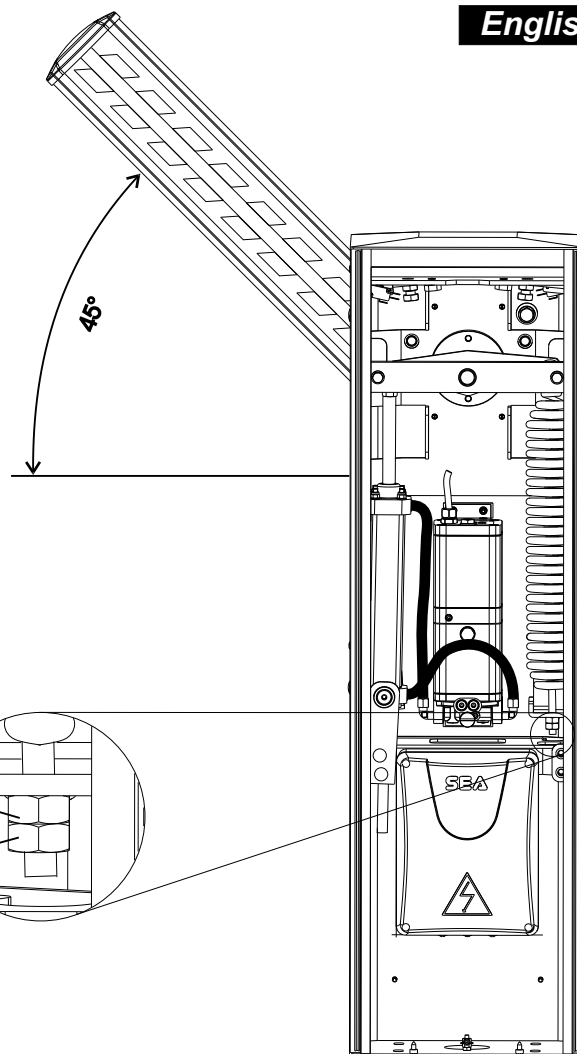

Fig. 12
- Release the beam with manual release, so that it is free to be opened and closed manually (Fig. 12).
- Loosen or tighten the spring stretching nut until the spring counterbalances the weight of the 45° beam (Fig. 12). The best balancing position is obtained when the beam reaches the position shown in Fig. 12.